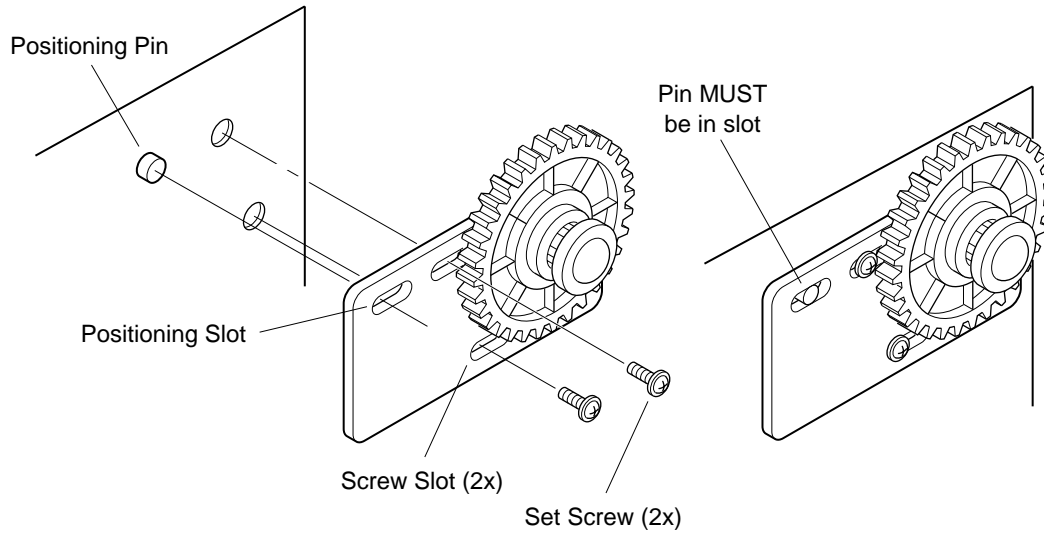

Figure 4-2. Example of Positioning-Pins and Holes On Bracket Assemblies
- (5) **Movable-bracket positioning-pins and locating-holes** - Figure 4-2 illustrates proper reinstallation of critical hardware. A bracket misaligned due to careless remounting can cause expensive damage.